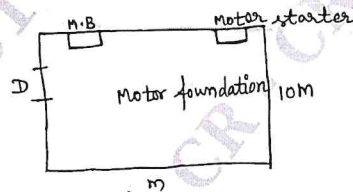

Fig. Q6 (c)
c. A 10 HP, 415 V, 3 ϕ , 50 Hz induction motor is to be installed in a workshop the plan of which is shown in Fig. Q6 (c). Show the single line diagram and estimate the quantity of material required. (10 Marks)